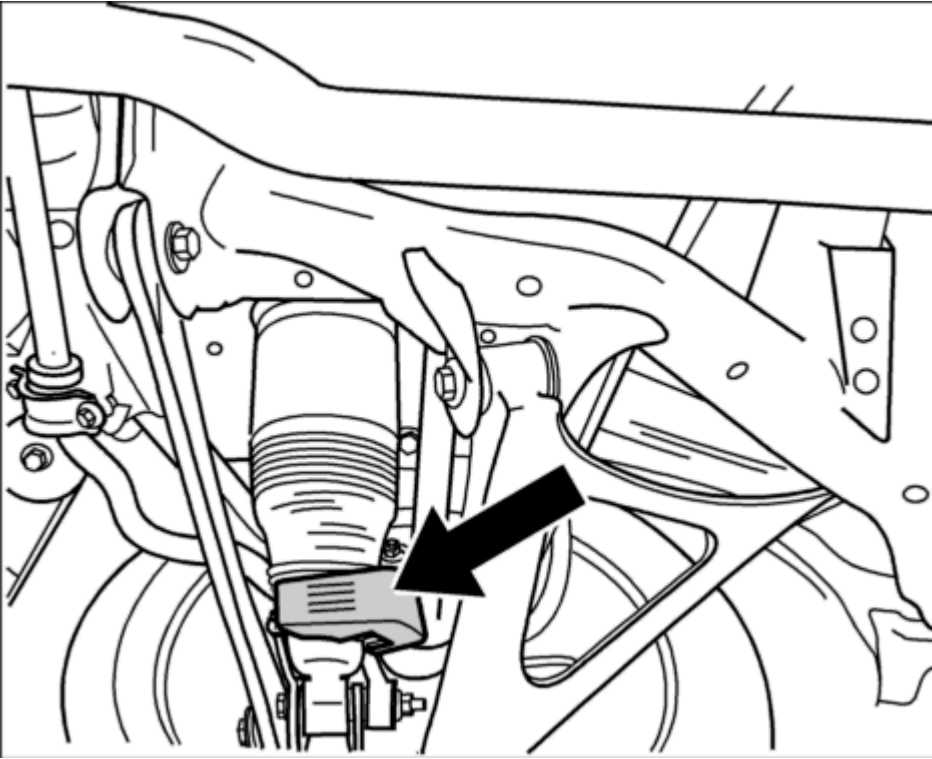

Fig. 66: Stone guard for CDC sensor
4. Remove stone guard for CDC sensor -**arrow**- . See **Fig. 66**.